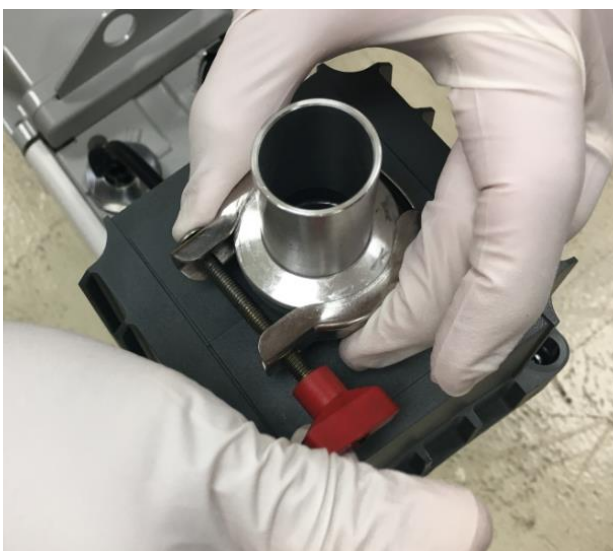

Figure 33: Securing the top adapter and O-ring with a clamp
- 13) Install and secure the clamp that attaches the top adapter and O-ring to the oil mist filter. See Figure 33.